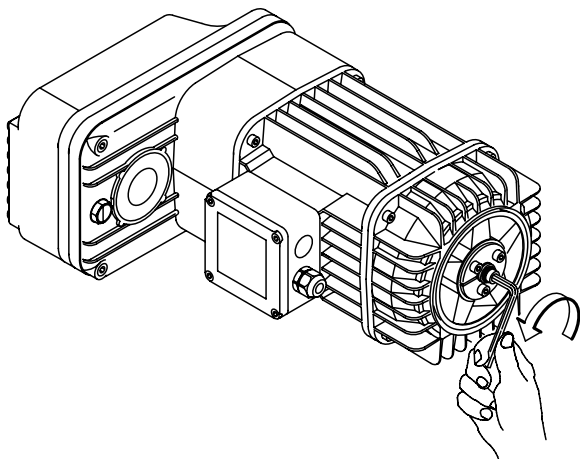

fig. 155
1. Loosen the central Allen screw (fig. 155).